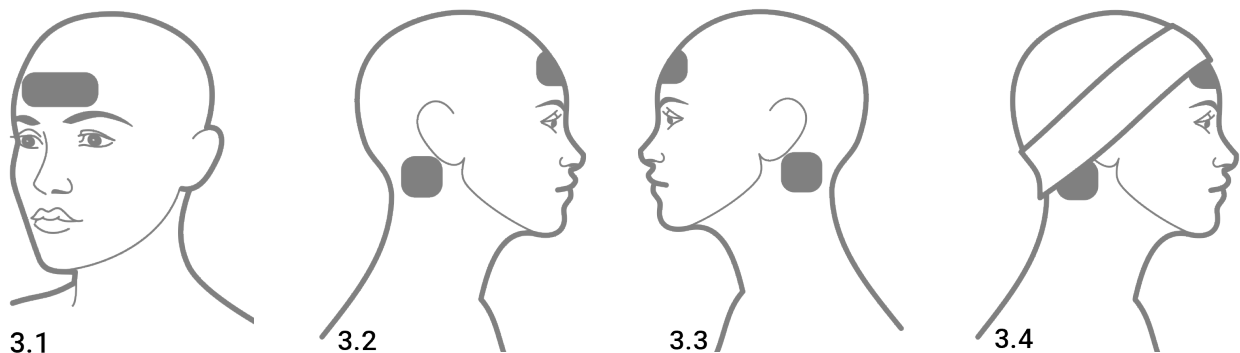

Figure 3
- With a little tension, put on the fabric headband, as shown in fig. 3. A fabric headband (bandana) is used exclusively for additional fixation of the electrodes on the skin during the procedure (fig. 3.4).